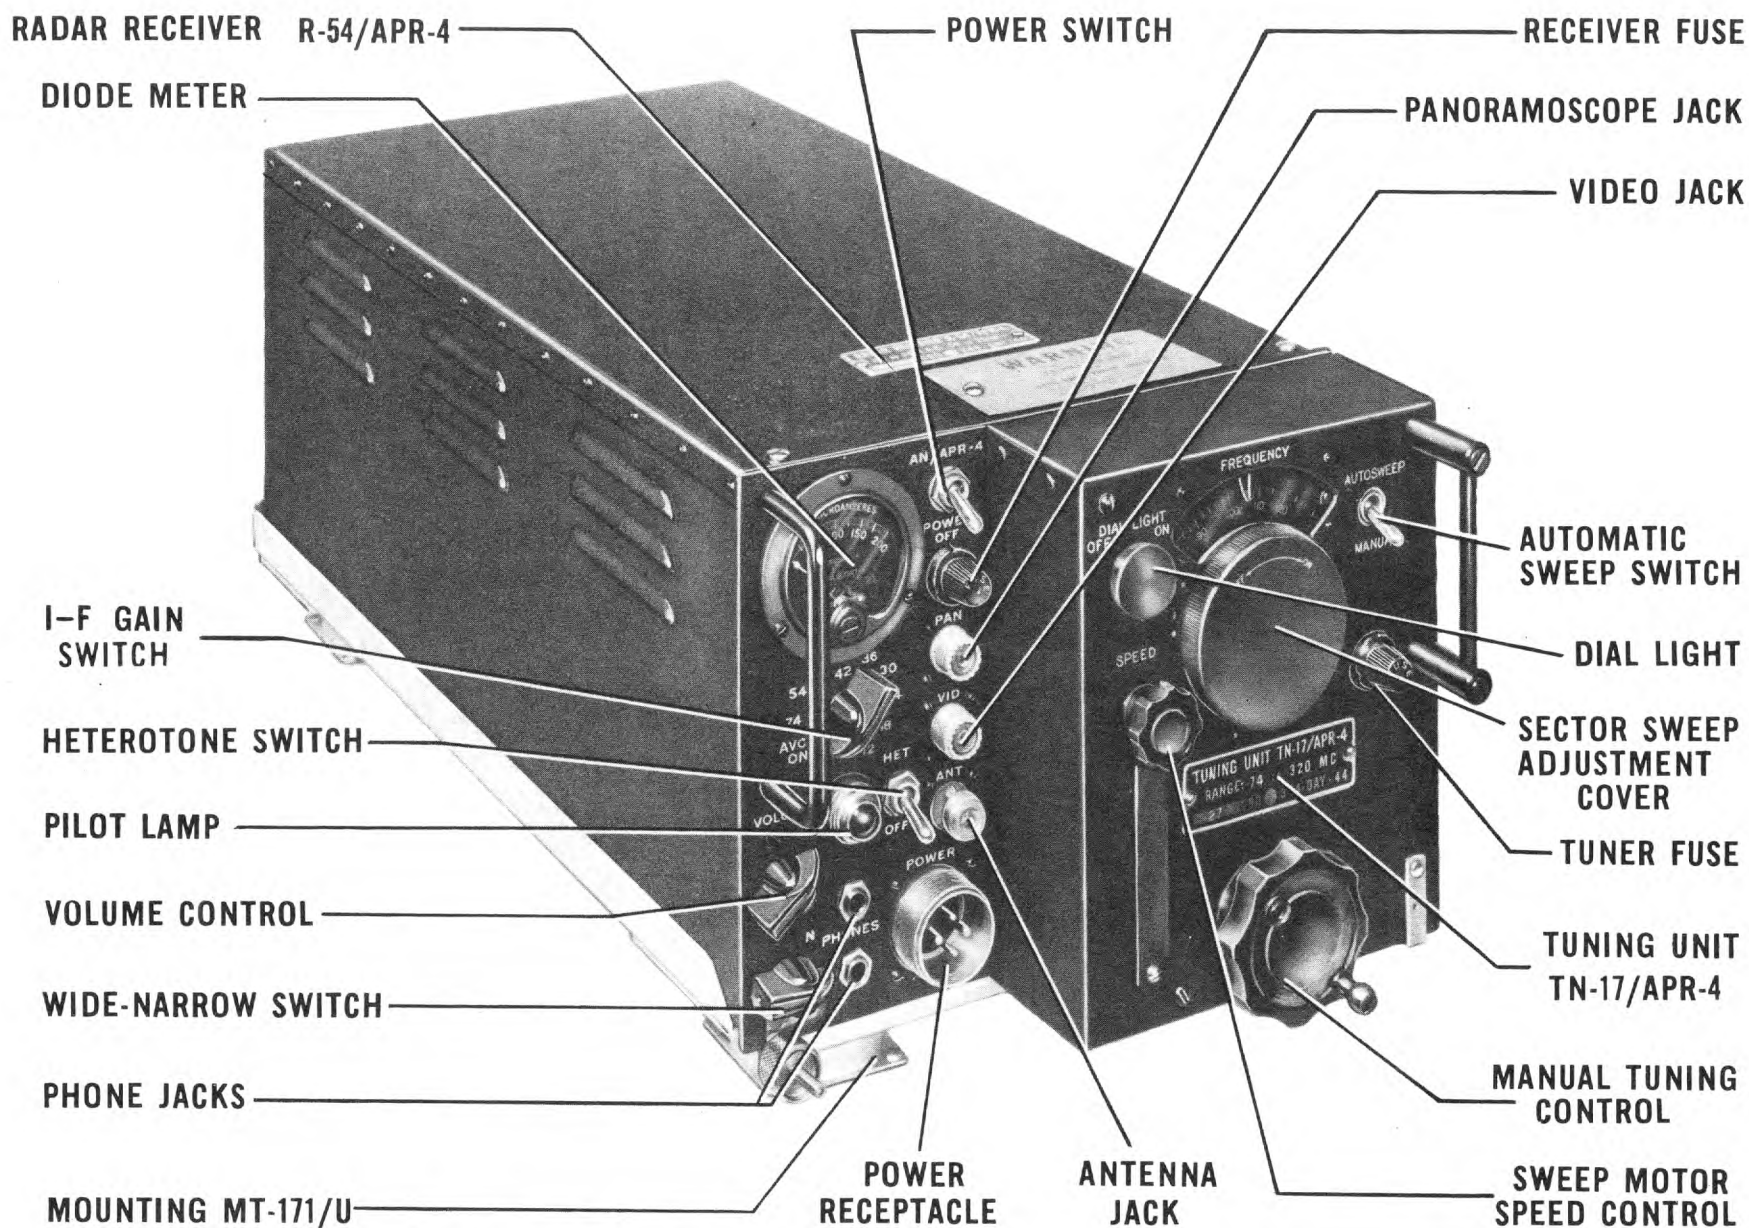

Figure 2-1. Radar Receiver R-54/APR-4 with Tuning Unit TN-17/APR-4
(1) UNPACKING.—Unpack the equipment carefully to prevent damage to the diode meter or controls.
(2) INSPECTION.—Inspect Radar Receiver R-54/APR-4 (see figs. 2-1 and 2-2) for loose tubes or damaged equipment, as follows:
(2) CASES CY-31/APR-4.—Mount Cases CY-31/APR-4 (see figs. 2-5 and 5-1) so that they are conveniently located near Radar Receiver R-54/APR-4 (see figs. 2-1 and 5-2).
(3) TUNING UNITS.—Slide the desired tuning unit (see sec. V, par. 1b) into position on the tracks provided in the large rectangular hole in the panel of Radar Receiver R-54/APR-4, properly engaging the plugs and jacks. Swing the right hand knurled nut on Mounting Base MT-171/U over the hold-down lug on the lower right hand corner of the tuning unit panel and tighten by hand. The receiver will then be locked in its mounting base, and the tuning unit in the receiver. Install the remaining tuning units in their cases.
(4) FAN ANTENNA.—Install Antenna Base AB-27/A, connecting to it two 53-inch lengths of Wire W-106-A. Connect a third wire, equal length of Wire W-106-A, to the two free ends. This forms